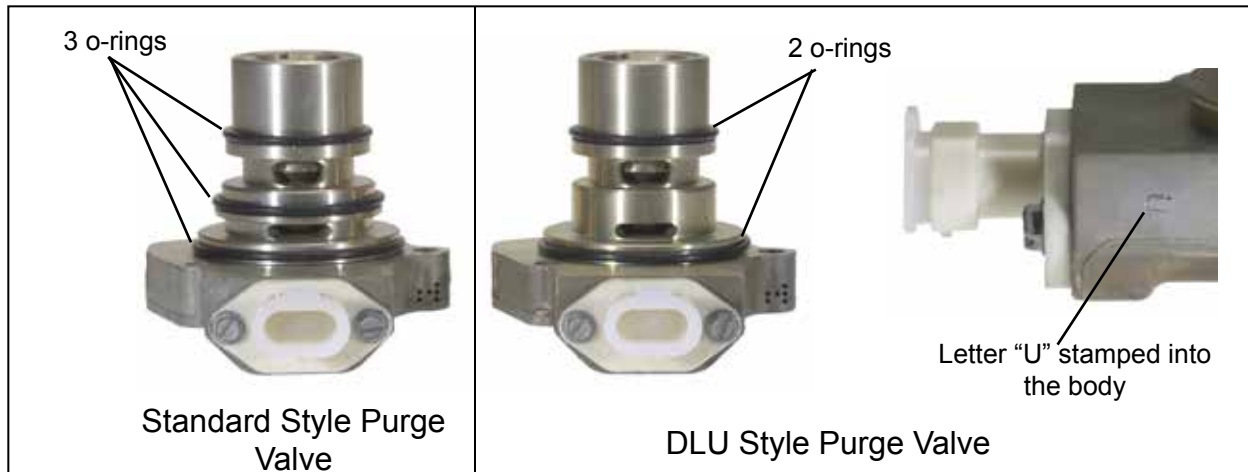

Figure 2 - Standard and DLU Purge Valves
3. Discharge line unloading (DLU) purge valves have the turbo cut-off valve bypassed. While the DLU purge valve is similar in appearance to the standard purge valve, the middle o-ring groove and o-ring sealing surface are eliminated from the housing on the DLU purge valve. This purge valve is used to positively vent the compressor discharge line of non-head unloaded compressors. See *Figure 2*.
First, identify whether the purge valve is a DLU-style. The DLU type can easily be distinguished from the others, because the DLU type have only two o-rings on the outside of the purge valve housing, rather than the standard three o-rings. For DLU purge valves, the middle o-ring seat has been removed. Additionally, AD-9 air dryers with a DLU purge valve have the letter "U" stamped on the side of the purge valve housing. Because the letter "U" is not always visible, it is best to use the number of o-ring grooves for identification. See *figure 2*.